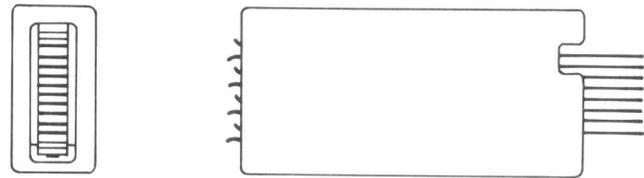

Fig. 4—554-Type Jack
2.04 554A, B, and C: These step-by-step type jacks (Fig. 4) are designed to be used on a relay rack-type mounting plate. Each consists of contact springs assembled in a molded housing of insulating material. The terminals are arranged for mechanically wrapped connections. These jacks are used in the ANI-B and ANI-C Trunk Frames, Step-by-Step Systems.